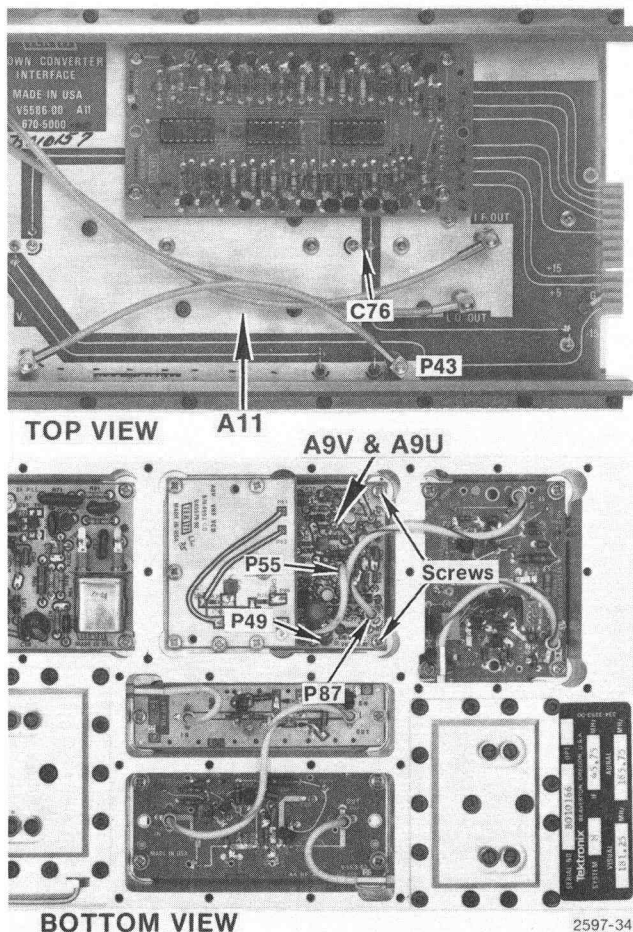

Fig. 5-9. Removing the VHF and UHF VCO Amp boards, A9V and A9U.
Removing the VHF and UHF VCO Amp Boards (A9V and A9U) (see Fig. 5-9).
2. Disconnect the LO Return coaxial cable from the Interface board behind the VCO Amp board. (See Fig. 5-9.)